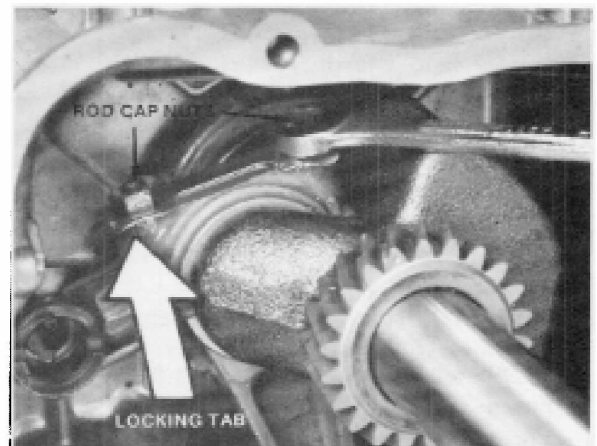

Figure 4-31
1. To remove the connecting rod, straighten the tabs on the locking plate and remove the rod cap nuts. See Fig. 4-31.